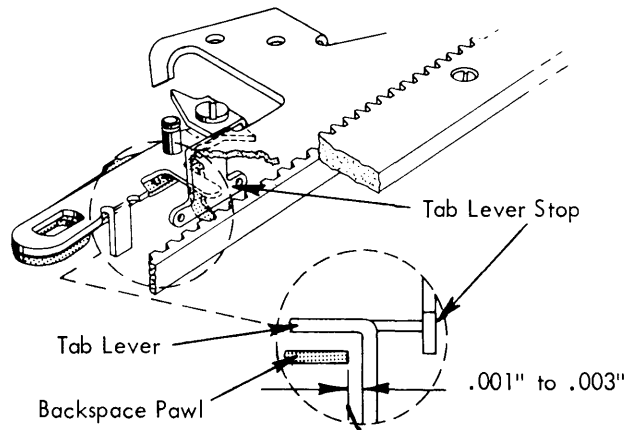

FIGURE 126. Tab Lever Stop Adjustment
2. Tab Lever Stop - The rest position of the tab lever is controlled by a lug on the escapement bracket called the tab lever stop (Fig. 126). The stop should be formed front or rear so that a clearance of .001" to .003" exists between the vertical lug on the tab lever and the backspace pawl when the backspace pawl is bottomed in its rack.